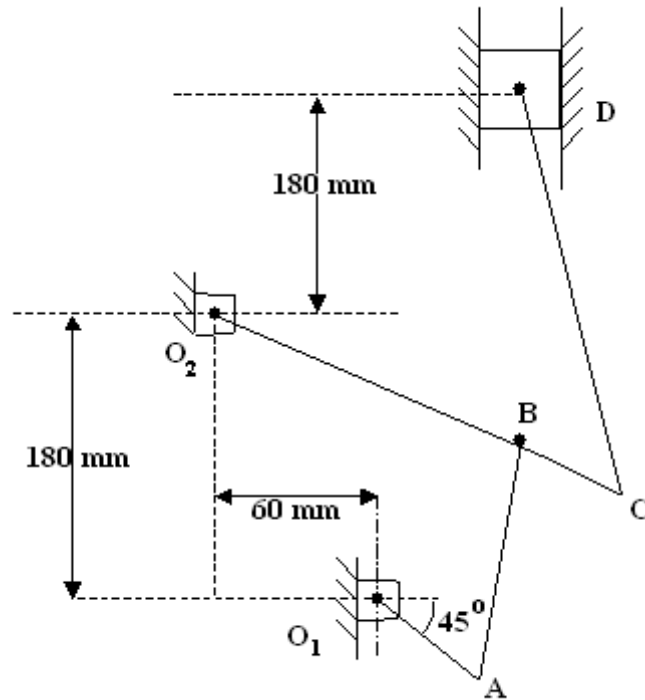

Figure 5:
4. A mechanism as shown in Figure 5 has the following dimensions: $O_1A = 60$ mm; $AB = 180$ mm; $O_2B = 100$ mm; $O_2C = 180$ mm and $CD = 270$ mm. The crank O_1A rotates clockwise at a uniform speed of 120 r.p.m. The block D moves in vertical guides. Find by instantaneous centre method, the velocity of D and the angular velocity of CD.